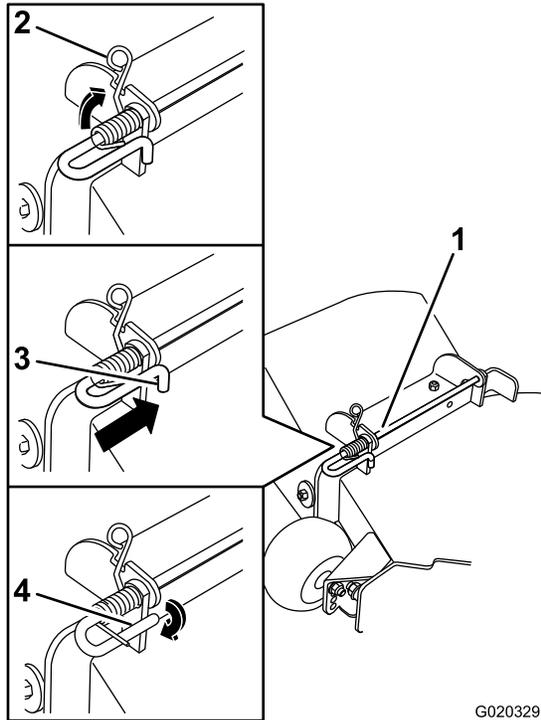

Figure 76
- Lift the loop end of the spring and place it into the notch on the deflector assembly bracket (Figure 76).
- Secure the rod and spring assembly by twisting it so the short end of the rod can be placed behind the front bracket welded to the deck (Figure 76).